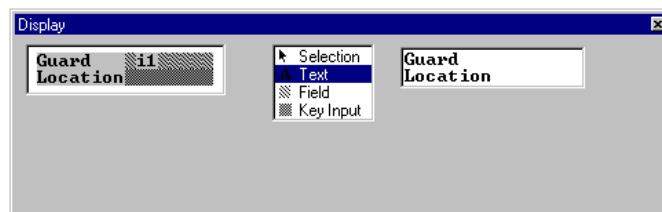

Figure 3-67 “Guard” Handler Display - Location Corrected in Display
57. Press <Enter>; the display now shows **Location** on the second line (Figure 3-67).